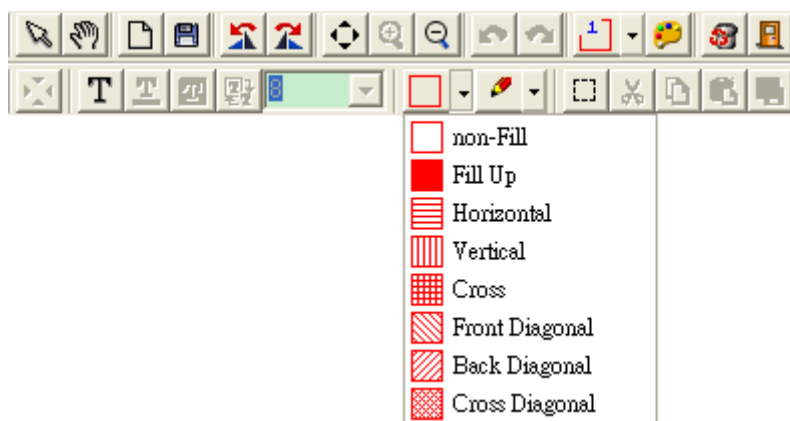

Fig 3-12 Brush Style
- ⊕ Brush style: Various brush style to choose, however, only effective on Circle, Oval, Square or Rectangle. See Fig 3-12.